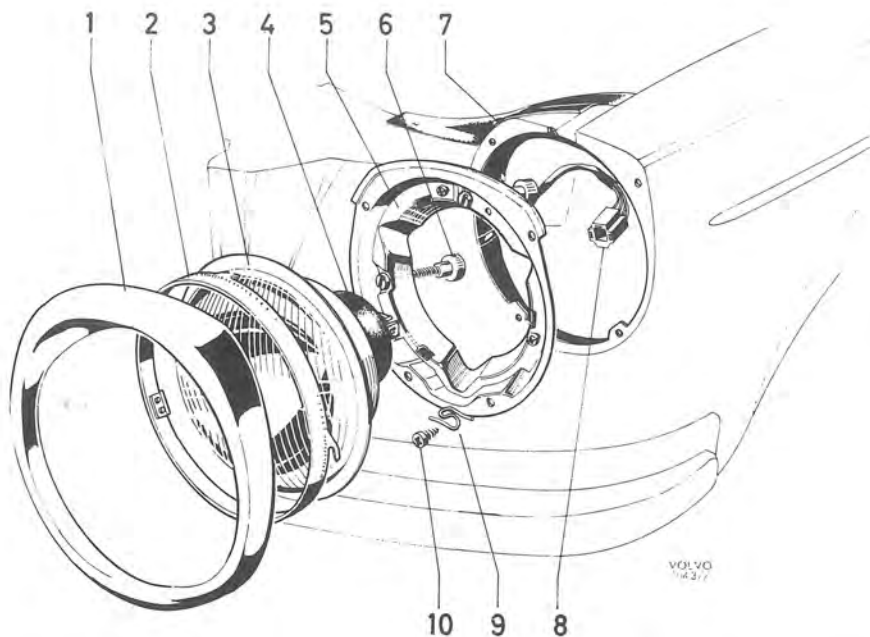

Fig. 3-72. Headlight
7. Adjust the light according to current legislation. Adjustment is made by means of the two adjusting screws, see Fig. 3-72. Use approved light adjusting equipment.
6. Check the lighting adjustment. This is done by means of the two adjusting screws, see Fig. 3-72.
Adjustment is made by varying the two adjusting screws behind the headlight, see Fig. 3-72. The upper screw adjusts the headlight vertically and the screw at the side adjusts the headlight laterally.